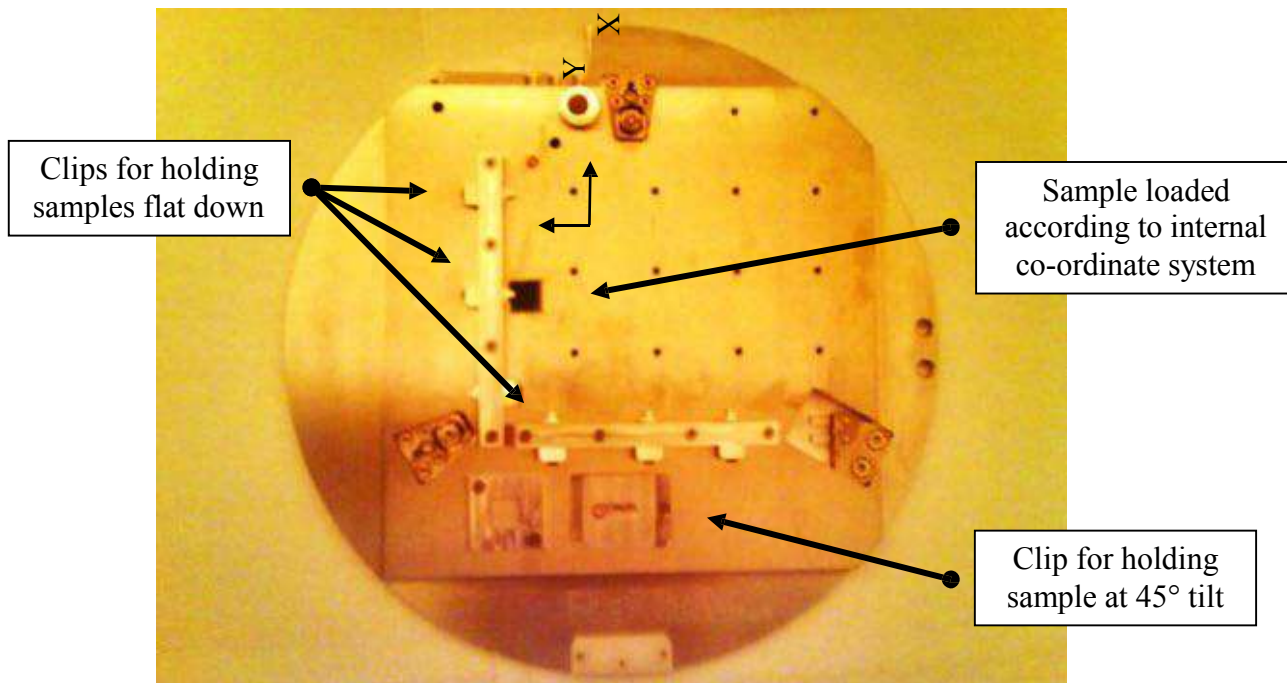

Figure 2 Universal Sample Holder (USH)
- (i) The **universal sample holder (USH)** contains numerous clips to hold chips in a certain orientation as shown in fig. 2 (below). This is in order to facilitate exposure and inspection. The bottom of the **USH** contains three locations for the piezo-levelers (visible in fig. 2; shown during training) which connect to the stage. The **USH** must be handled with great care.